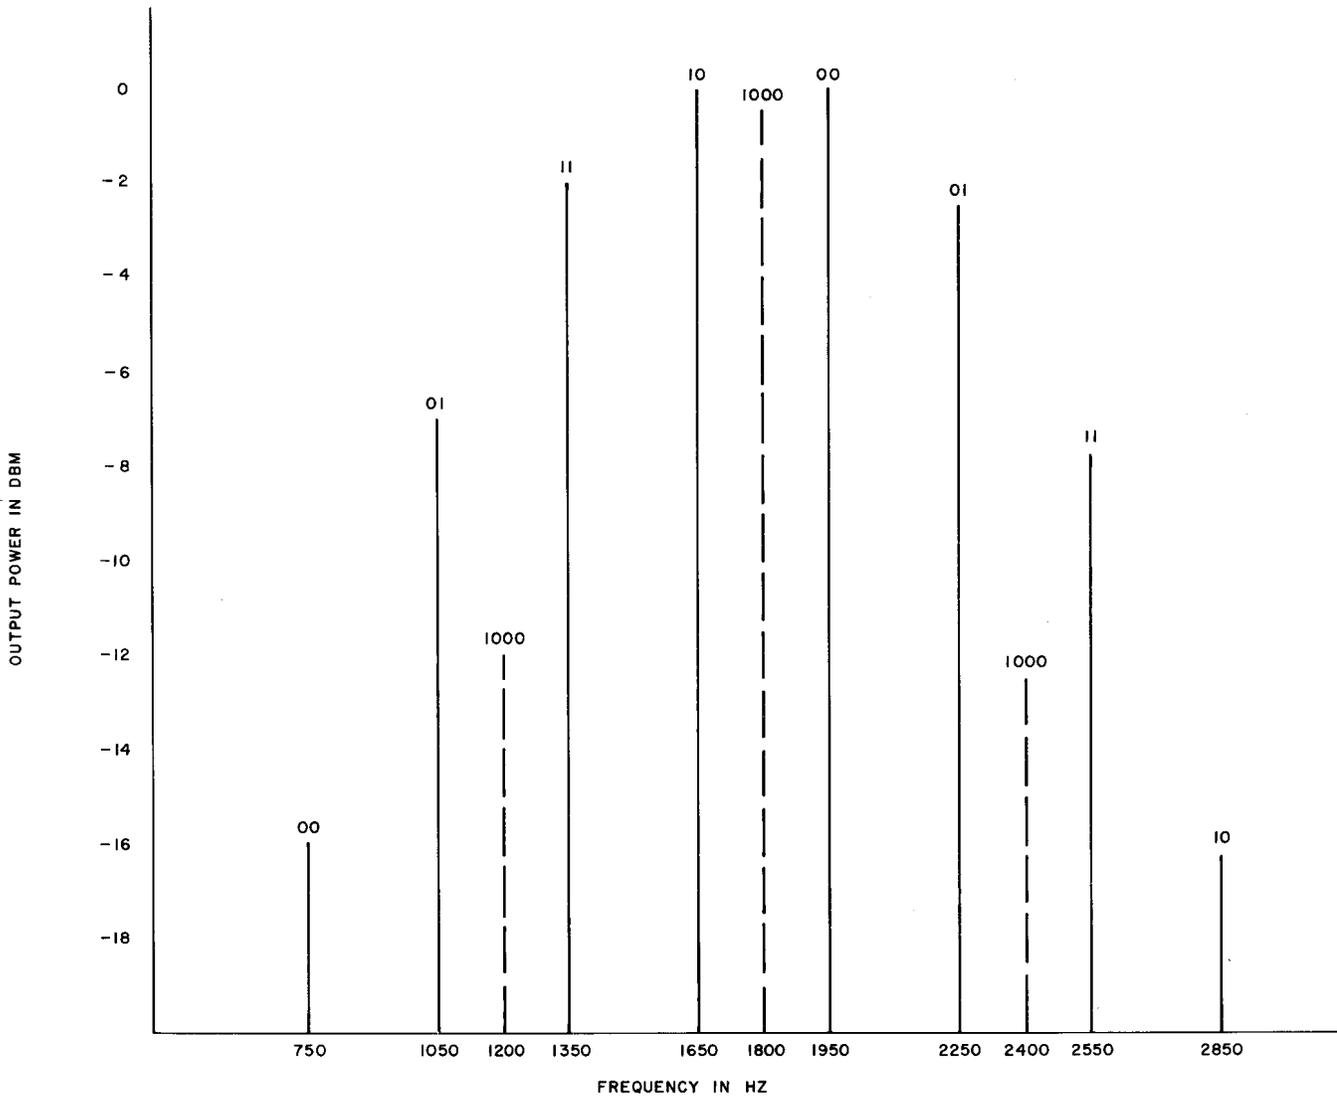

Fig. 2 — Output Spectrum for Repeated Dibit Codes at 2400 bps
4.06 The customer business machine must provide a minimum number of data crossings per second on the send data (SD/BA) lead, for receiver synchronization, while CS/CB is ON. The line spectrum for the transmission of repeated dibits is shown in Fig. 2.